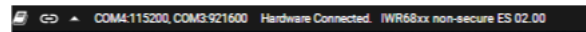

Figure 4. COM Port Status When Correct Ports Are Configured
- At this point, the app automatically tries to connect to the target (mmWave Sensor), see Figure 4.